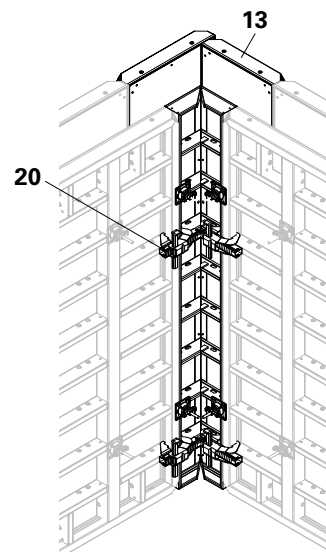

Fig. A7.03
- TRIO Inside Corner TE (13) or Inside Corner TAE (Alu)
- Alignment Coupler BFD (20) (2 x BFD for h = 2.70 m) (Fig. A7.03)